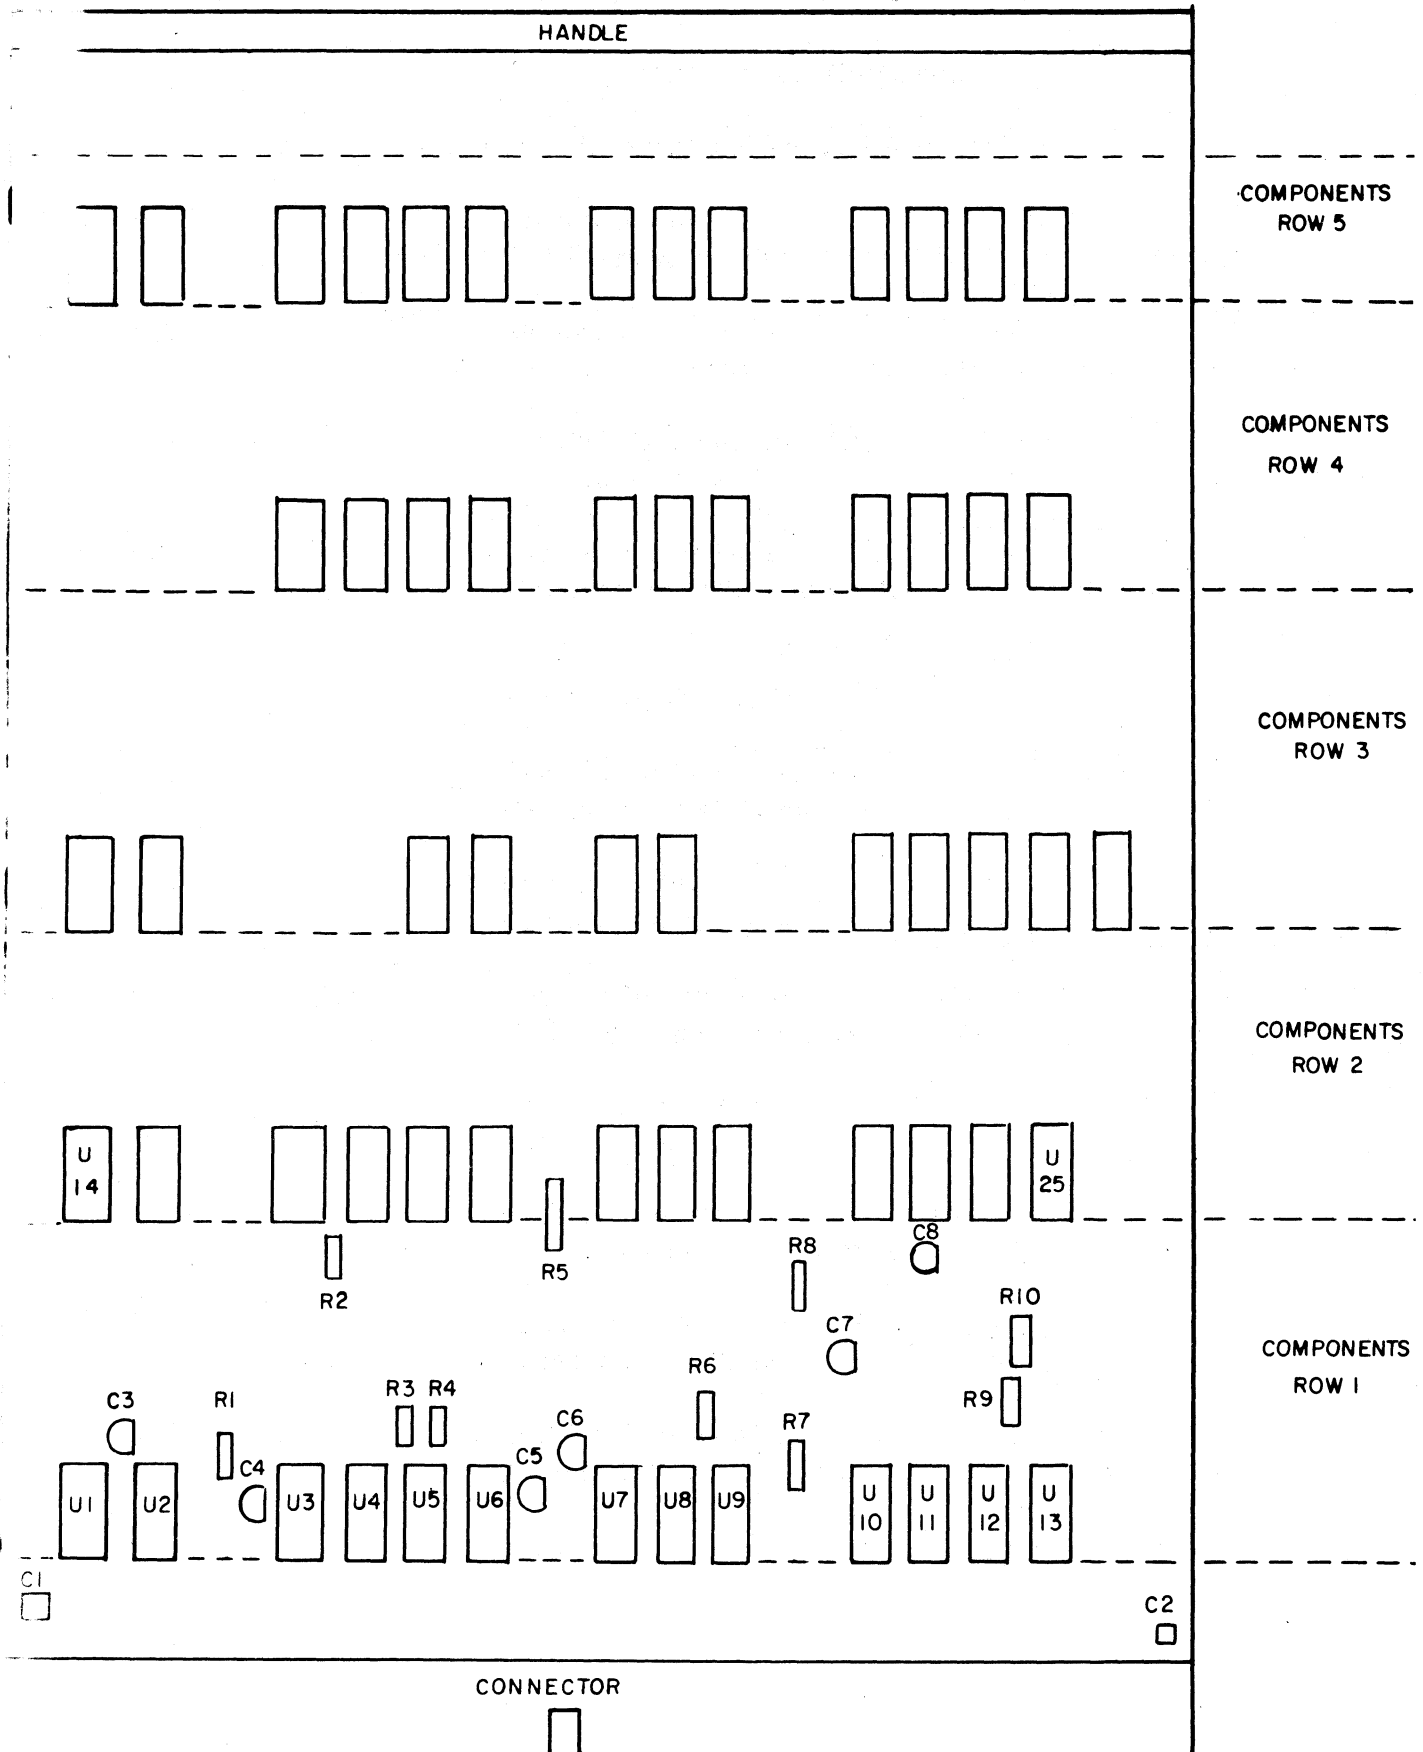

Figure 6-1. Example of PCB Component Reference Numbering System
All reference designators appearing in the Group Assemblies Parts List have been assigned in accordance with USA Standard USAS Y32.16-1968. The general procedure for assigning reference designators to printed circuit board assemblies having high component density is to number components in discrete rows from left to right across the assembly, with the number sequence of the rows increasing from the bottom toward the top of the assembly. Under these conditions the components with the lowest reference numbers will be found at the bottom left-hand side of the assembly, with the highest reference numbered components located on the top right-hand side of the assembly. (The bottom of any printed circuit board assembly is defined as the Printed Circuit Connector end of the board. The top of the printed circuit board assembly is defined by the handle.) This numbering convention is maintained wherever possible. Components with different part numbers are also called out as required by the figure indexing. Component row boundaries are defined as follows: From the printed connector up to the edge of the first Integrated Circuit Package (IC) row is defined as the connector row. From the edge of the first IC row to the edge of the second IC row is defined as COMPONENTS ROW 1. From the edge of the second IC row to the edge of the third IC row is defined as COMPONENTS ROW 2, ... etc. Figure 6-1 is an example of the PCB Component Reference Numbering System showing the Components Row layout.